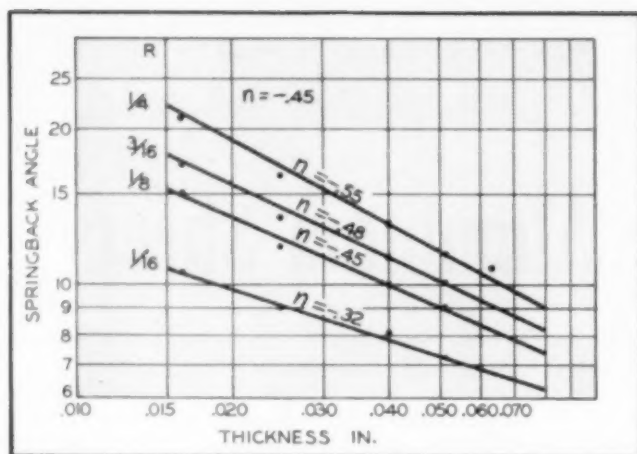

Fig. 2. Springback versus thickness for 24ST.
Fig. 2 illustrates the effect on tool life as cutting feed is varied.
4. Using this speed and the previously selected depth of cut, only three feed tests need be made; one at the original test feed, one about 0.005 in. higher, and one about 0.005 in. lower. If these tests are placed on a graph such as Fig. 2 and the points fall on a reasonable straight line, the originally selected speed is satisfactory. If this is not so, sufficient tests must be made to determine the straight line portion of the feed curve and the preliminary speed test repeated, using the new value of cutting speed.
To aid in determining exponents n , m , n' and m' , the values of springback have been plotted as shown in Figs. 2, 3, 4 and 5; firstly against thickness with the block radius as the constant, and secondly against the block radii with the thickness as a constant. The slopes denoted by n , m , n' , and m' can be averaged as -0.45 , 0.40 , -0.73 and 0.73 respectively.